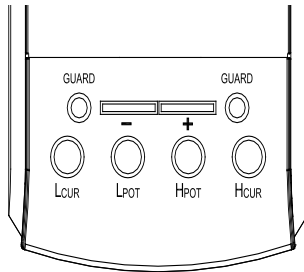

Figure 4
- a When using square terminals , the square terminals and $L_{CUR}/L_{POT}/H_{POT}/H_{CUR}$ terminals hang in the air (shown in figure 4);